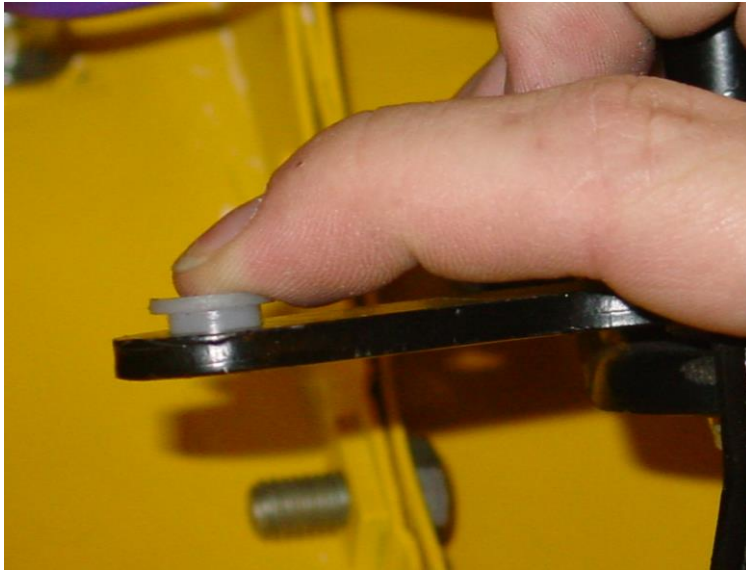

Figure 11 – Installing the Nylon Bushing
4. Insert one of the two supplied nylon bushings into the bellcrank of the RS headlight assembly from the top (Figure 11).